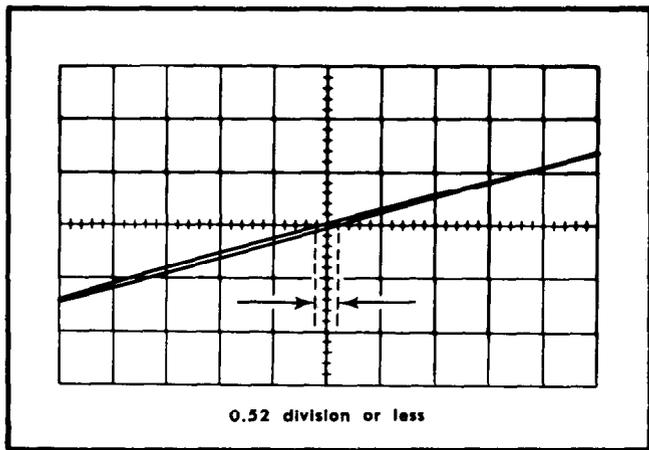

Fig. 5-25. Typical CRT display when checking X-Y phasing.
e. CHECK-CRT display for an opening at the center horizontal line of 0.52 division or less (3° or less phase shift; see Fig. 5-25).